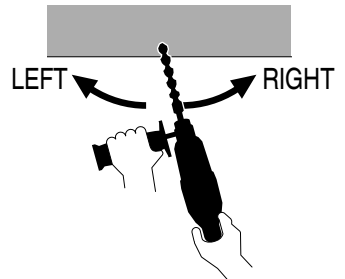

Fig. 40
2. The level LED on the tool side lights up or blinks in the color shown below when the level LED switch is pressed. (Fig. 40)
- The LED level function detects tilt for surfaces (such as walls) that are perpendicular with respect to gravity (**Fig. 40 UP, DOWN**), but it cannot detect horizontal tilting with respect to the surfaces (**Fig. 40 RIGHT, LEFT**).